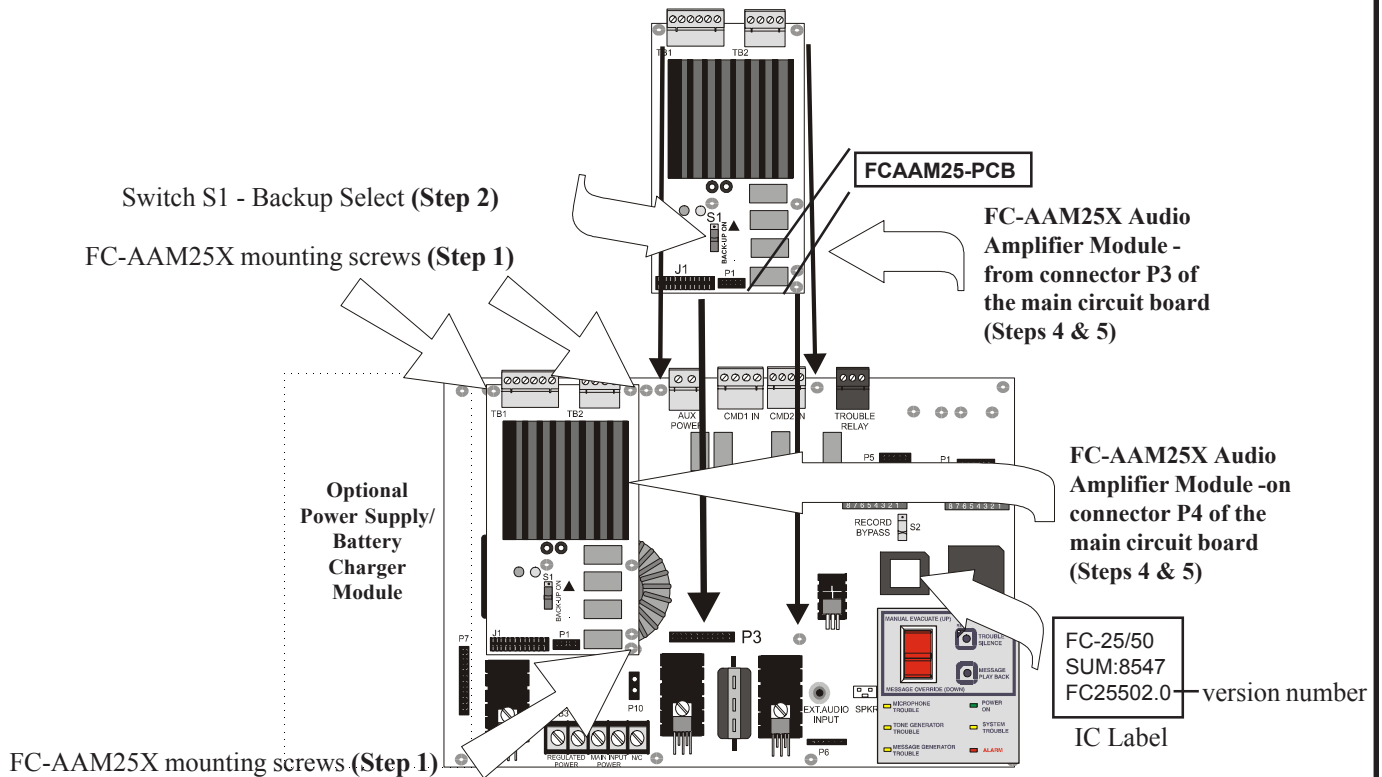

Figure 1: Main Circuit Board
- Main circuit board identified by software version FC25502.0 or higher (refer to Fig. 1) or